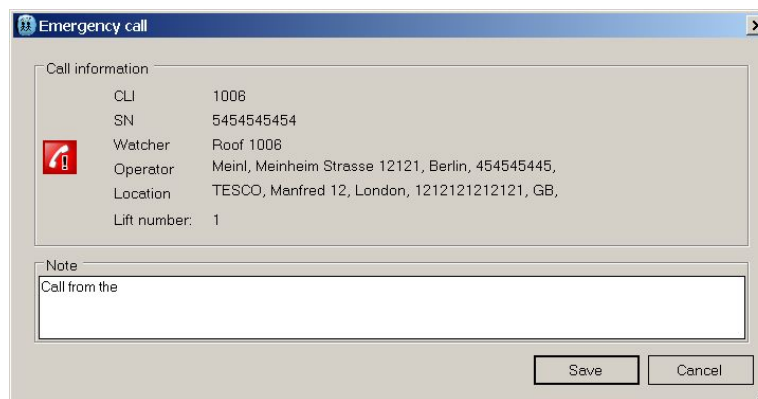

Figure 28: Append note to emergency call
- Write additional notes about the call into the dialog provided and press "Save“ button - see figure 28.
DTMF identification string. For Control and Error calls appropriate note is shown in the Status bar. For Emergency calls corresponding dialog is shown to handle the call (see figure 28).